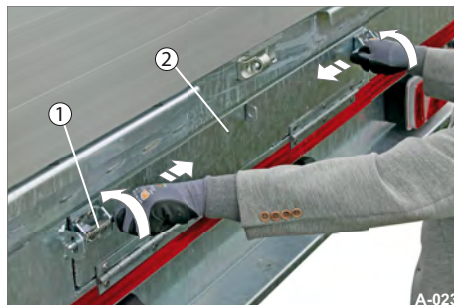

Fig. 29 Unlocking the ramp plank bay
- At the same time turn the spring bars (Fig. 29/1) upwards and pull them towards the middle.
- Fold the flap (Fig. 29/2) of the ramp plank bay down.
- Close the flap (Fig. 29/2) of the ramp plank bay.
- Lock the flap with the spring bars (Fig. 29/1) and if necessary with a padlock.